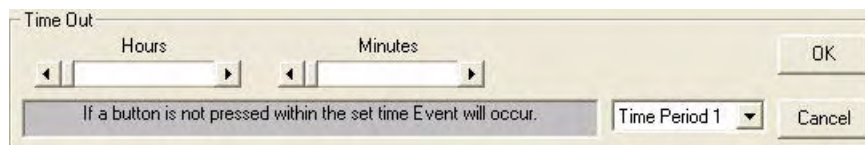

FIG. 88 Time Out window
2. This invokes the *Time Out* window (FIG. 88):